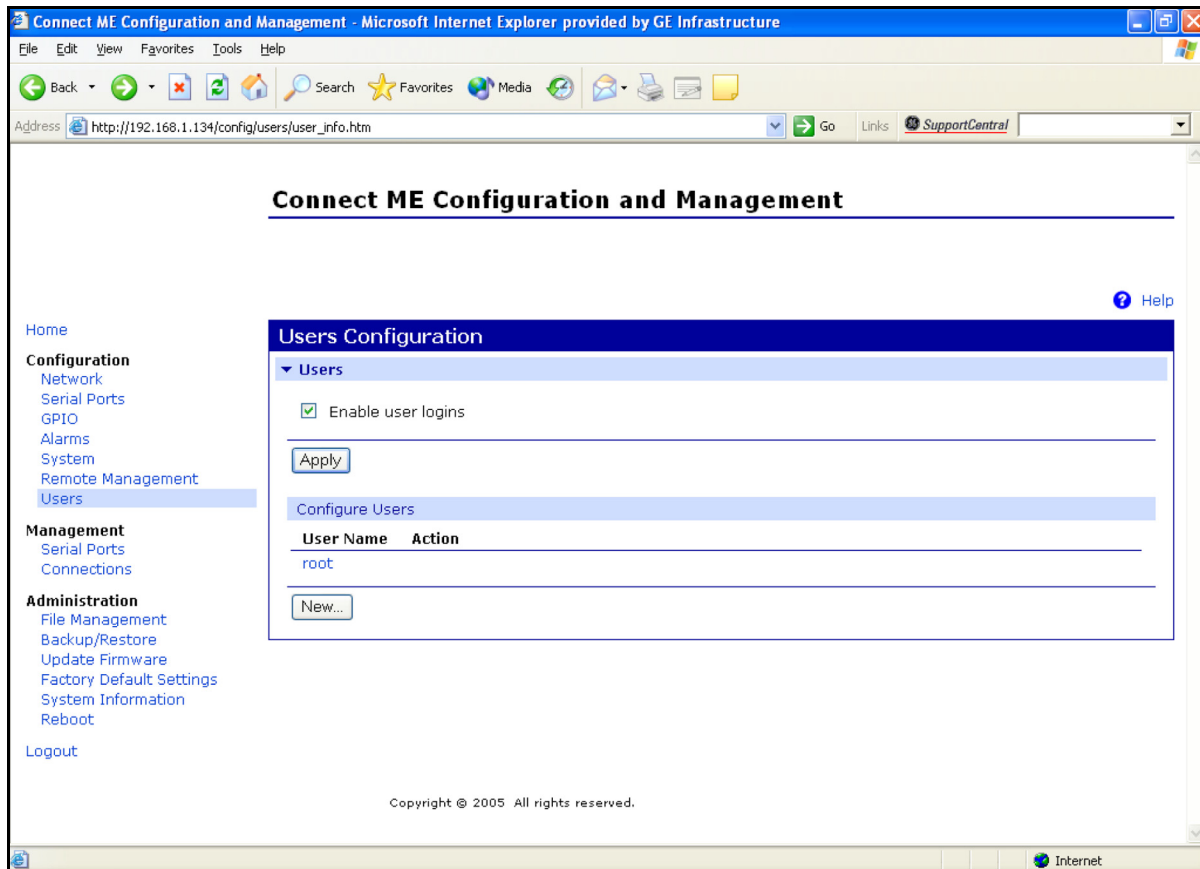

Figure 19: User's Configuration Menu
3. Click on **Login**. Figure 19 appears.